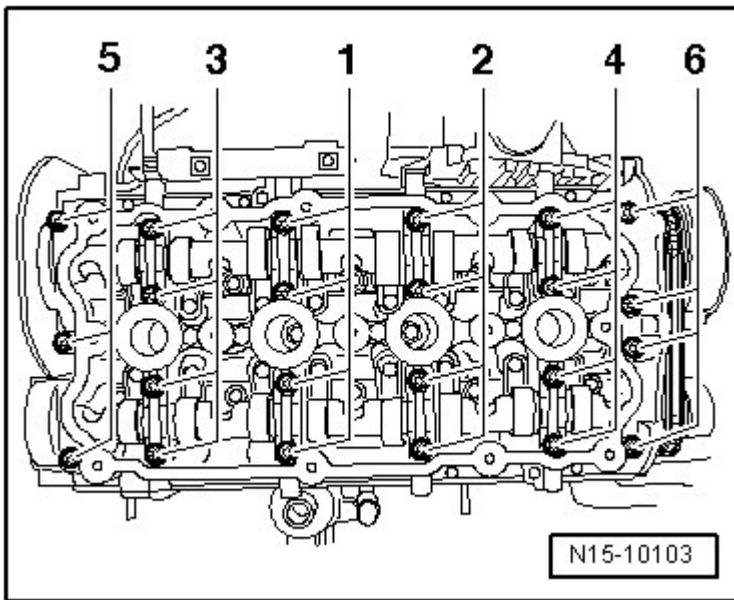

Fig. 16: Identifying Cylinder Head Bolts Tightening Sequence
- Tightening sequence, refer to **Fig. 16**